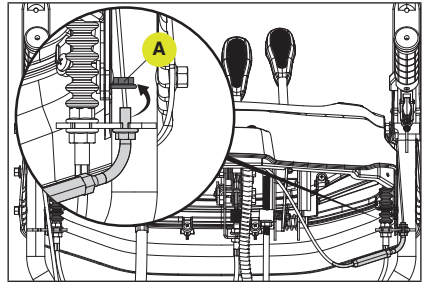

Figure 86
1. On the underside of the control panel, loosen the top nut (A) from the clutch cable on the right. (Fig. 86)